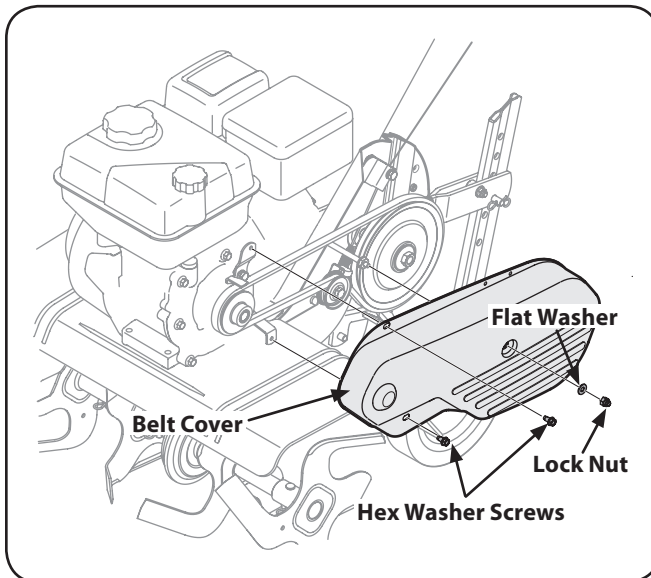

Figure 7-1
2. Remove the belt cover from the left side of the tiller by removing the two hex washer screws and the lock nut and washer. See Fig. 7-1.